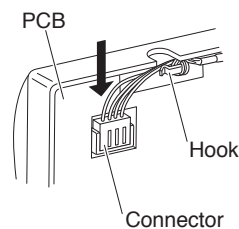
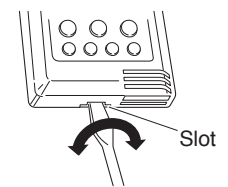

Fig. 4
Fig. 5
- (5) Insert the connector into the PCB of the remote controller unit, and wrap the wire harness around the hook. (Fig. 4)
- (6) Store the excess wire harness inside the junction box, then hook the remote controller unit onto the top of the back plate and install the remote controller unit.
- (7) To remove the remote controller unit after it has been installed, insert a flathead screwdriver into the slot on the bottom of the case and turn it. (Fig. 5)
- (3) Insert the connector into the PCB of the remote controller unit, and wrap the wire harness around the hook. (Fig. 4)
- (4) Use nippers or a similar tool to cut out the slot on the top of the remote controller unit. Pass the wire harness through the slot, then hook the remote controller unit onto the top of the back plate and install the remote controller unit.
- (5) In order to conceal the exposed wiring, use a wire cover (locally purchased) or similar means.